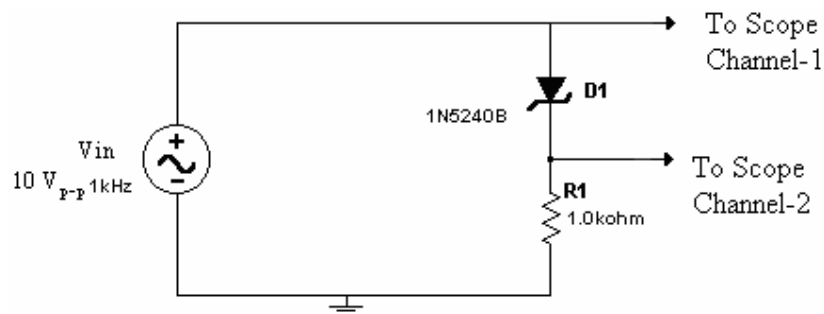

Fig.3: Measuring Zener Characteristic
2. Observe the zener characteristic curve by setting up the circuit shown in Figure 3. Put the oscilloscope in the X-Y mode. Sketch the I-V curve. The 1.0k Ω resistor changes the scope's y-axis into a current axis (1 mA per volt). Label your plot for current and voltage.